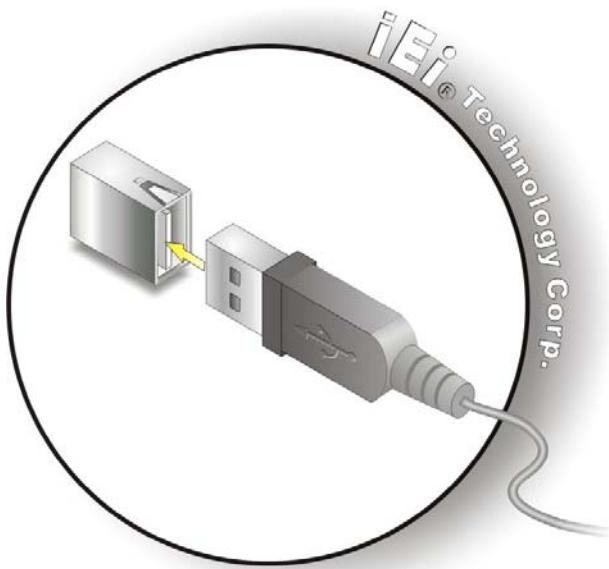

Figure 4-13: USB Device Connection
Step 2: **Align the connectors.** Align the USB device connector with one of the connectors on the PCISA-PV-D4251/N4551/D5251. See Figure 4-13.